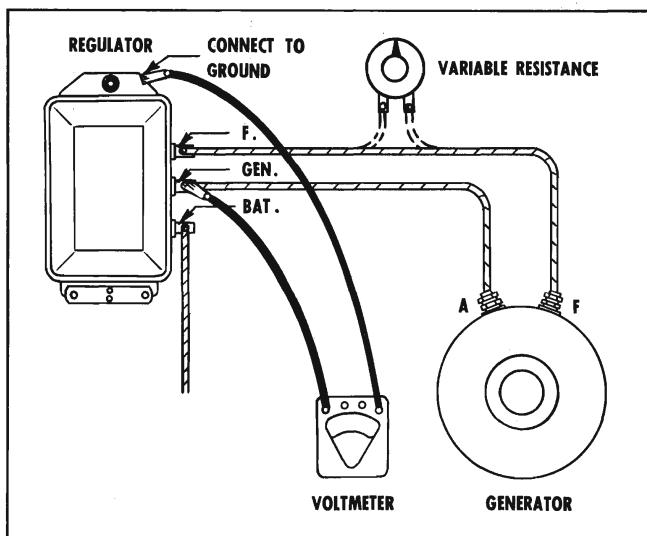

Fig. 11-27 Connections for Checking Closing Voltage
1. Connect a voltmeter between the regulator "GEN" terminal and ground (Fig. 11-27).